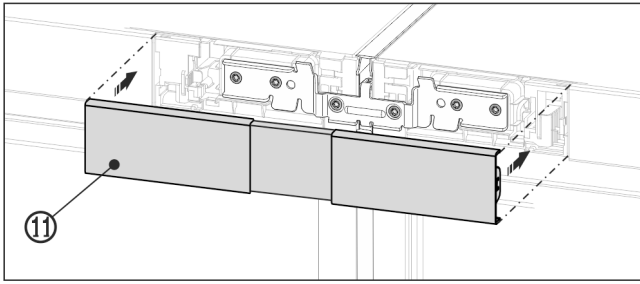

Fig. 23 Example illustration
- ▶ Snap the top cover Fig. 23 (11) onto the still open gap between the two control panel trims. Make sure that the outer sides of the cover form a flush finish with the control panel trims.